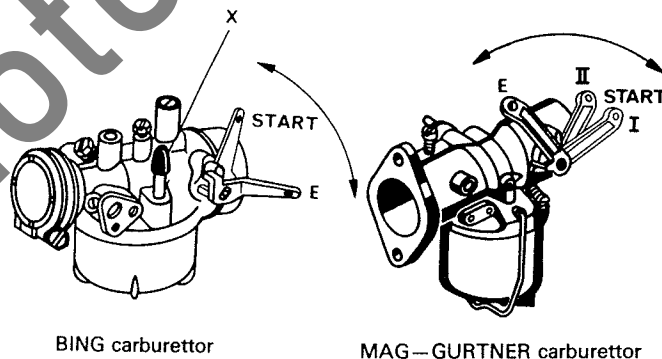

Fig. 2
Put choke lever in start position (Fig. 2)
Put choke lever in start position (Fig. 2). On this carburettor there is a thickener (x) that can be depressed to overflow the float chamber, enabling an easy starting of the cold engine.
Put choke lever on working position (E Fig. 2)
5. After starting of a cold engine, the choke lever should be moved to the working position (E, Fig. 2) as soon as the engine is warm.